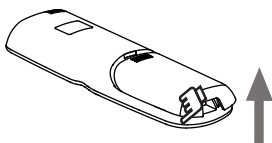

Figure 2.7
2) Lift up from the lower left end of the battery cover to open it (see Figure 2.7);